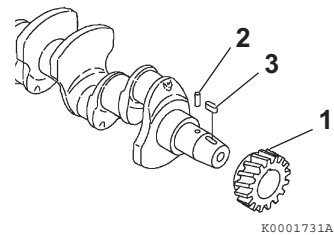

Figure 6-64
8. If necessary, remove the crankshaft gear (**Figure 6-64, (1)**), parallel pin (**Figure 6-64, (2)**) and key (**Figure 6-64, (3)**). If using a gear puller, be careful not to damage the threads in the end of the crankshaft.